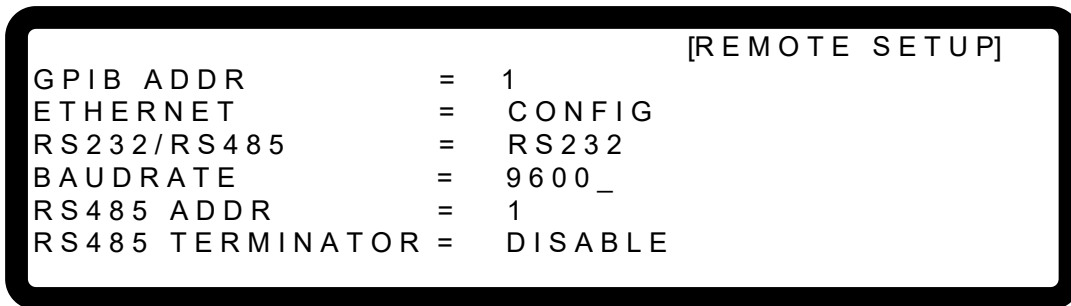

Figure 3-131
- Use "←↑", "↓→" keys to move the cursor to the column of BAUDRATE as Figure 3-131 shows.